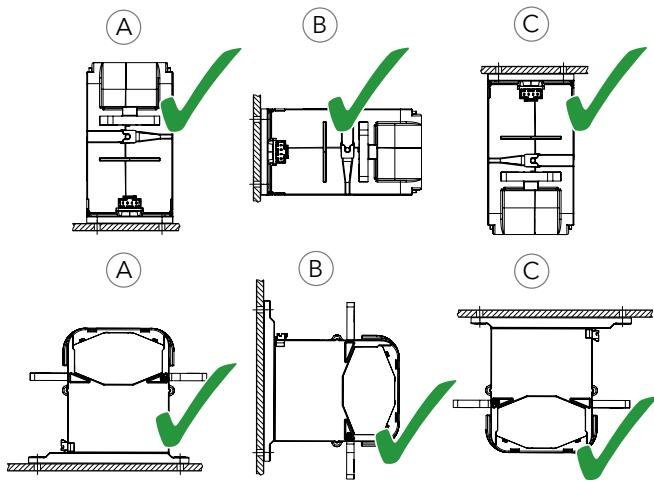
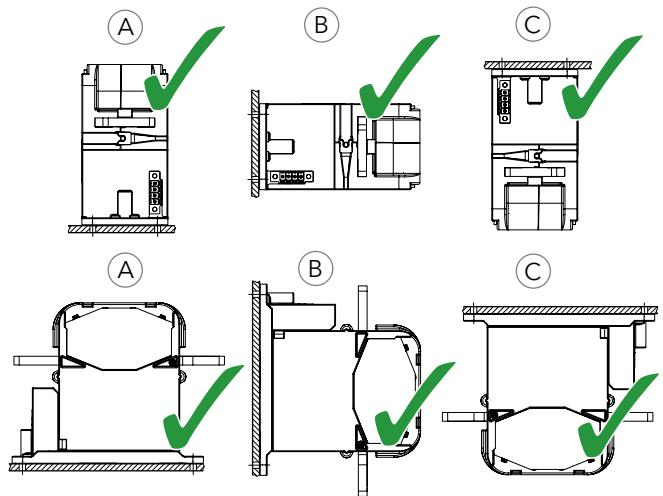

Fig. 6: C800-500-GxT...: Examples of permissible mounting orientations
Fig. 7: C800-500-GxP.../GxU...: Examples of permissible mounting orientations
Contactor versions for screw mounting are designed for horizontal (A), vertical (B) or upside down (C) mounting, as shown for example in (Fig. 6 and Fig. 7).